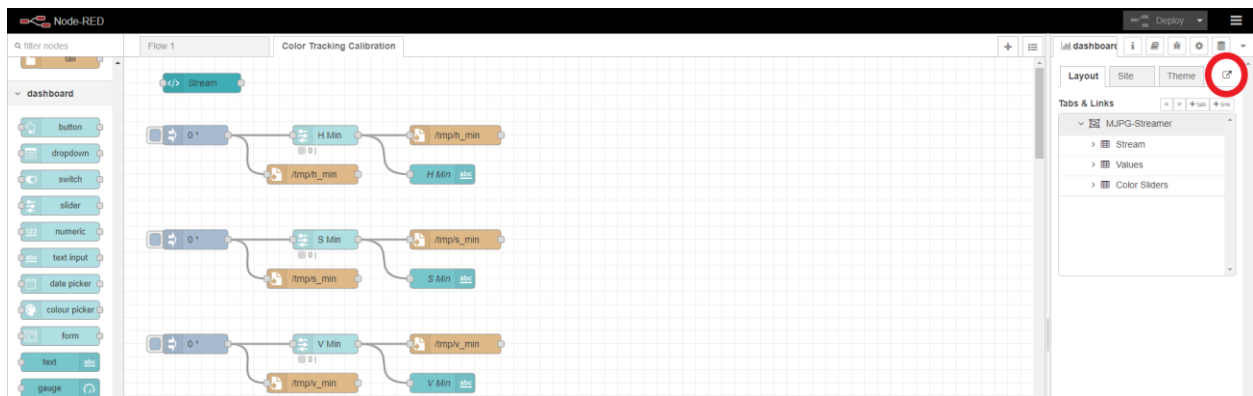
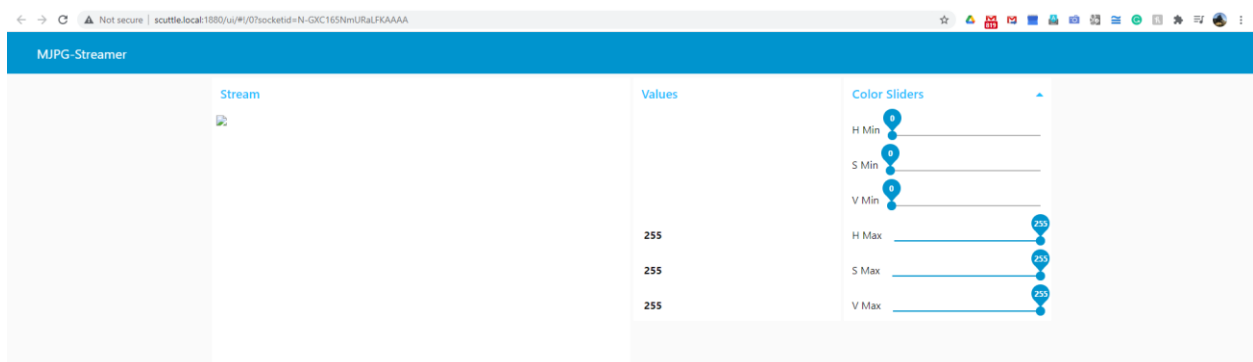

Figure 19
Figure 20
c. It should create a flow that looks like Figure 19 below:
d. Now click the “Deploy” button in the upper right of NodeRed and then click the button that is circled in red within Figure 19, and it should open a new tab in your browser with six sliders like Figure 20 below.